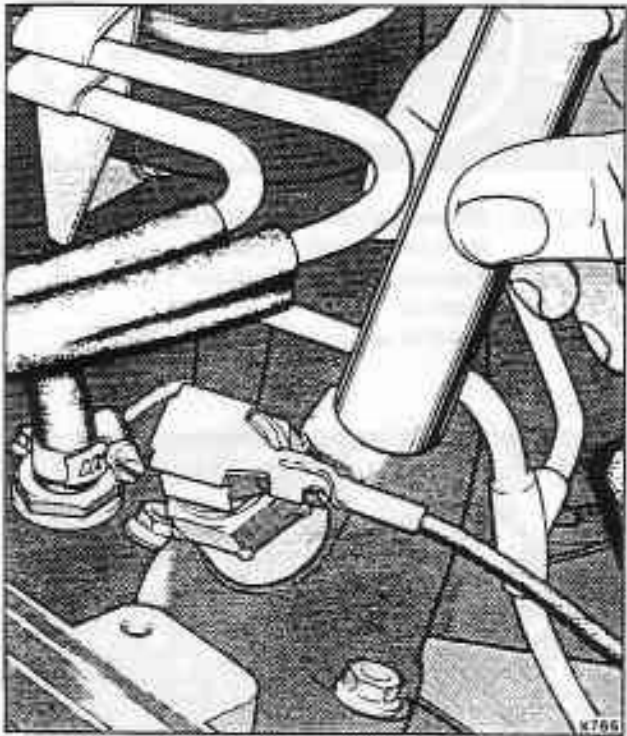

Fig. K11-24 Tapping the induction manifold adjacent to the knock sensor
22. Ensure that the test equipment is in the ignition timing mode and repeatedly tap the induction manifold adjacent to the knock sensor boss with an aluminium drift (see fig. K11-24). Do not strike the knock sensor.